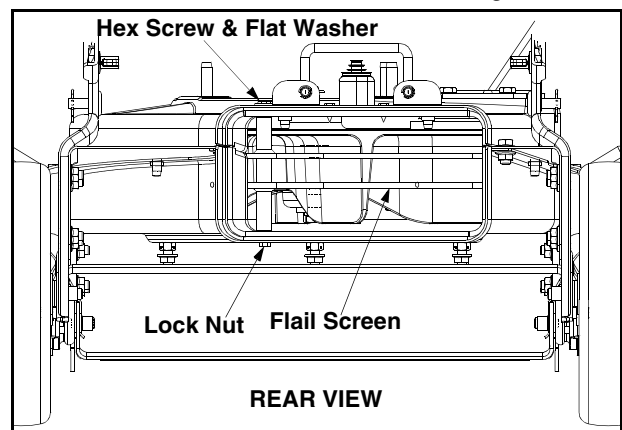

Figure 15
- Remove the vacuum bag or blower chute from the unit as instructed in the OPERATION section to obtain access to flail screen. See Figure 15.
- Remove hex screw and flat washer on top of rear housing near mounting bracket and the lock nut that secures flail screen. See Figure 15.
- Remove lock nut that secures flail screen to the lower housing. The flail screen does not have to be removed. Refer to Figure 15.